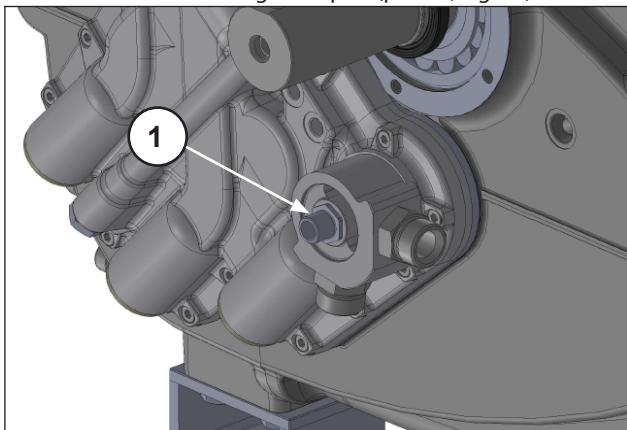
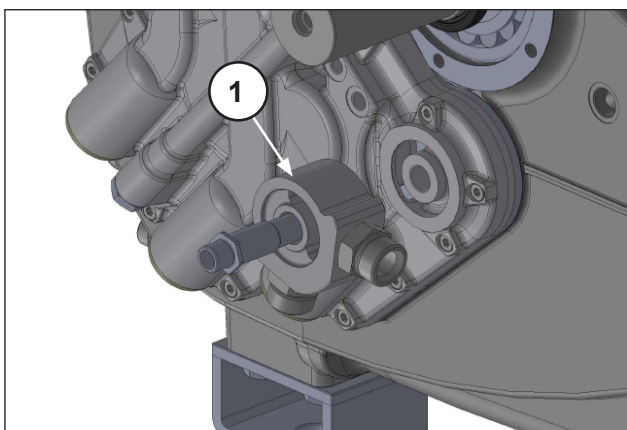

Fig. 19
Fig. 20
Undo the oil filter exchanger fitting (pos. ①, Fig. 19) and remove the oil air exchanger adapter (pos. ①, Fig. 20).